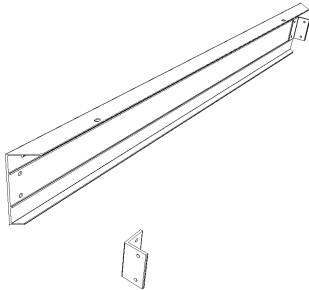

Figure 1
- Attach Angle Mounting Bracket to a rail using screws provided. (Figure 1)